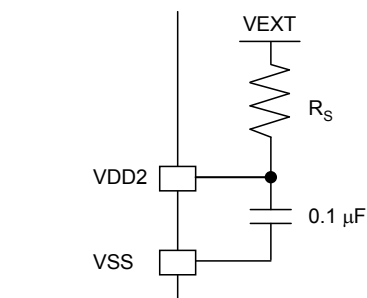

Fig. 1
- When the external supply voltage $V_{EXT} = 4.5\text{ V}$ to 5.5 V , connect a 5.1-k Ω resistor R_S between V_{EXT} and V_{DD2} as shown in Fig. 1.